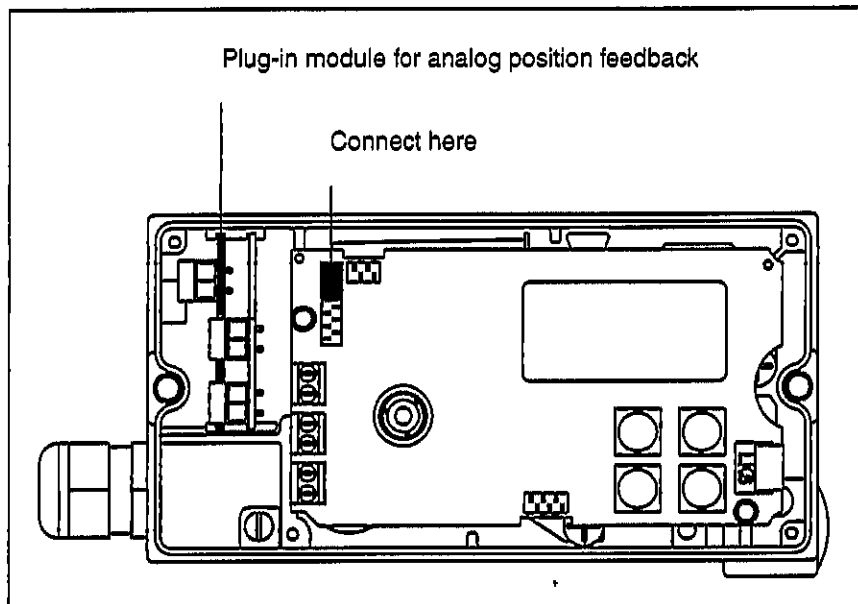

Fig. 27 Installing plug-in module for analog pos. feedb.
- Insert the plug-in module for analog position feedback into the left slot into the case (see Fig. 27 on page 33); ensure that the board engages into the case guides and that the flat cable with the connector is on the right-hand side.
- Connect the plug-in module to the motherboard (see Fig. 27).